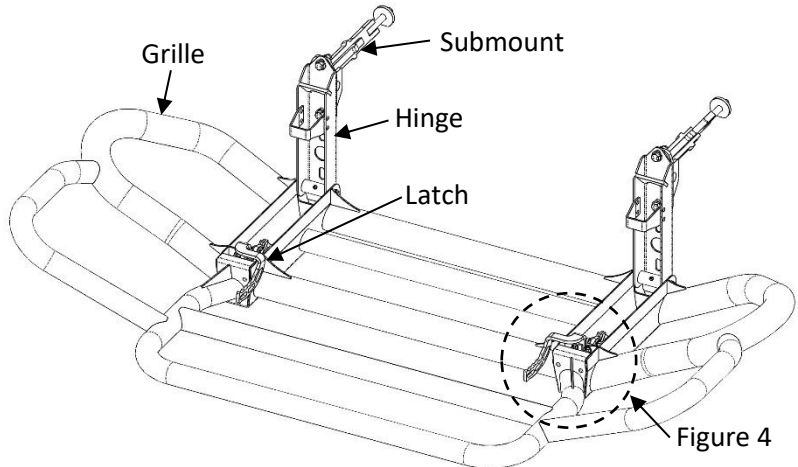

Figure 2: Grille Guard (Your Guard may not be exactly as shown)
1. Bumper Guard/Grille Guard components shown in Figure 2
- b. Lay open Grille as shown in Figure 2
- a. Lay open Grille as shown in Figure2